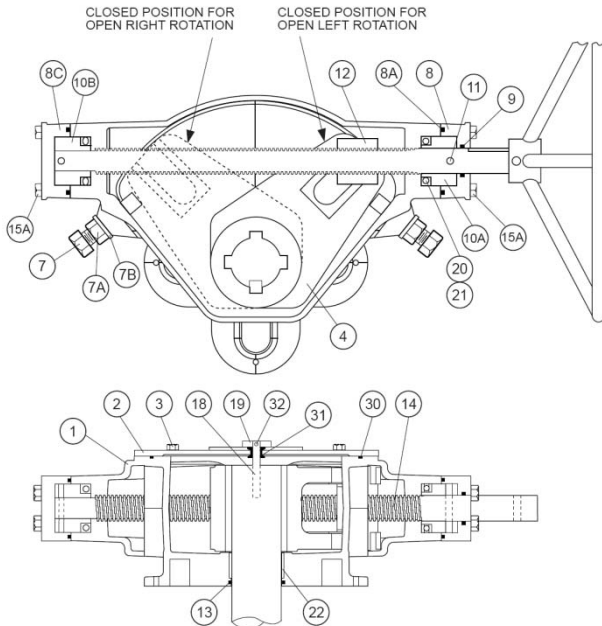
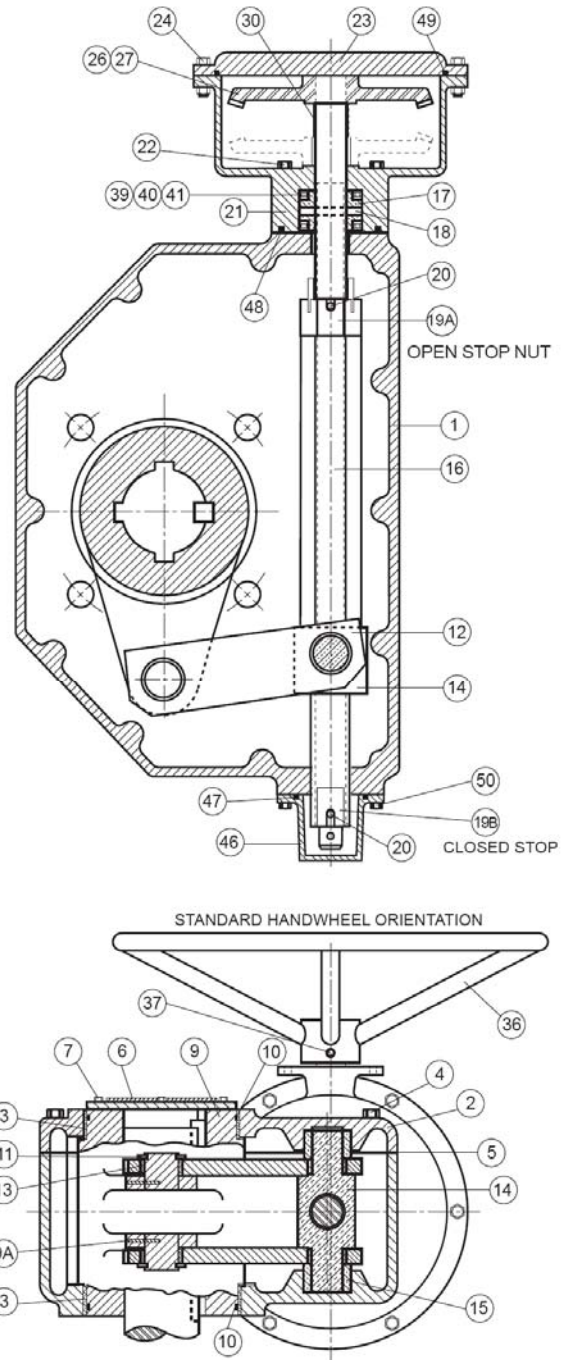

FIGURE 6. LS1A-LS4A ACTUATOR
FIGURE 7. LS5A-LS7A ACTUATOR
GEAR OPERATED VALVES: Ball Valves are provided with traveling-nut actuators. A traveling nut actuator (Figure 6) has a threaded rod (14) that drives a nut (12) from one end of the housing (1) to another. The traveling nut in turn drives a slotted lever through 90 degrees of rotation. Traveling nut actuators provide slower rotation and greater torque multiplication at the ends of travel. A bevel gear mounted on the input side of the actuator provides additional torque on larger units (Figure 7).